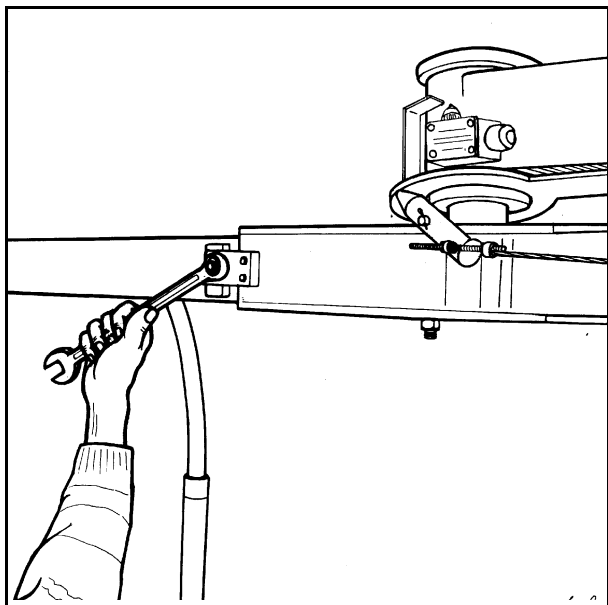

Fig. 2-8
3. Loosen the fixing screws for the locking plate which secures the second wrapping arm in the working position. Then swing the arm in towards the davit. (See fig. 2.8.)